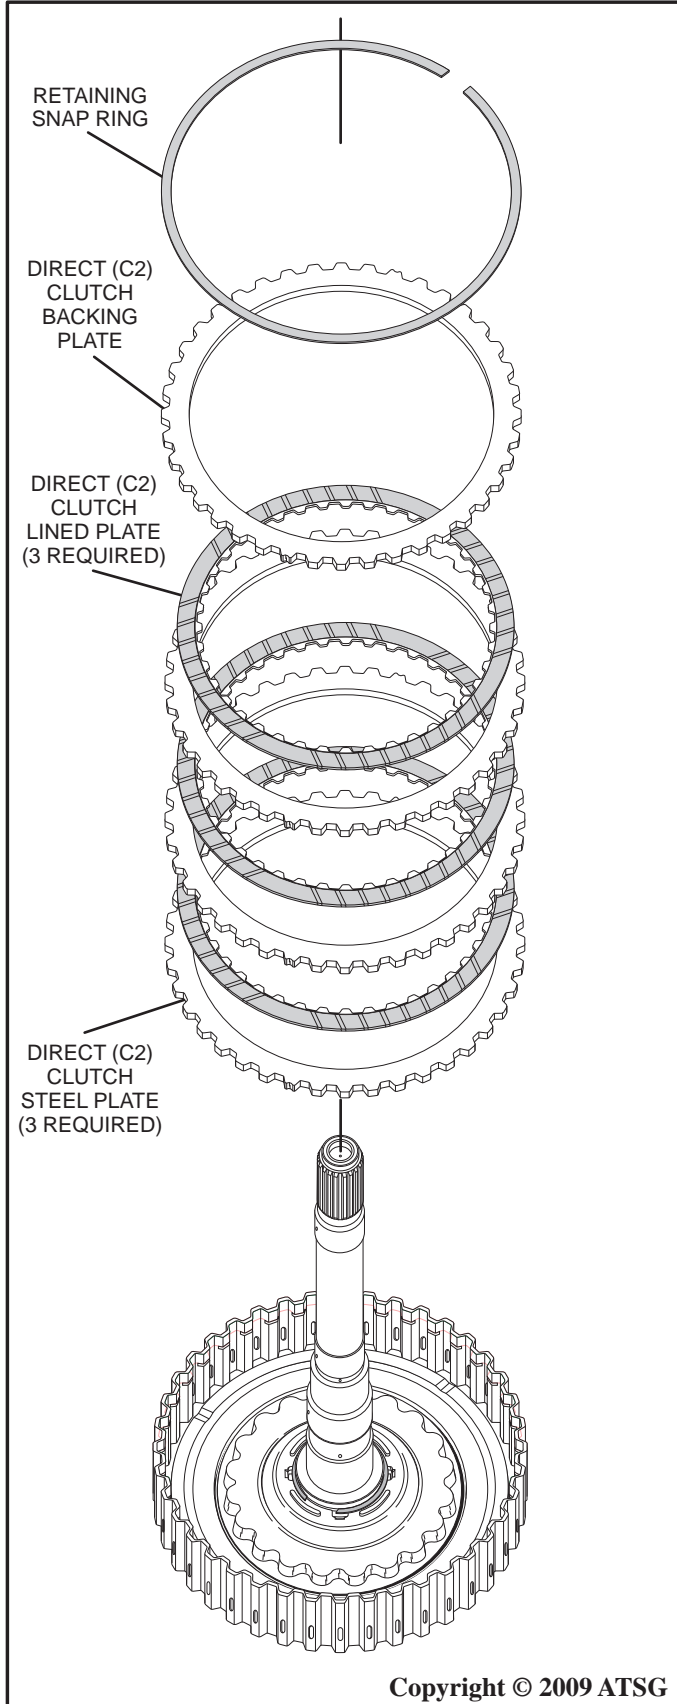

Figure 97
9. Install the direct (C2) clutch plates beginning with a steel plate, then alternating frictions and steels until there are three steel and three lined plates installed into the drum housing as shown in Figure 97.
10. Install the direct (C2) clutch backing plate into the drum housing as shown in Figure 97.
11. Install the retaining snap ring into the drum housing as shown in Figure 97.